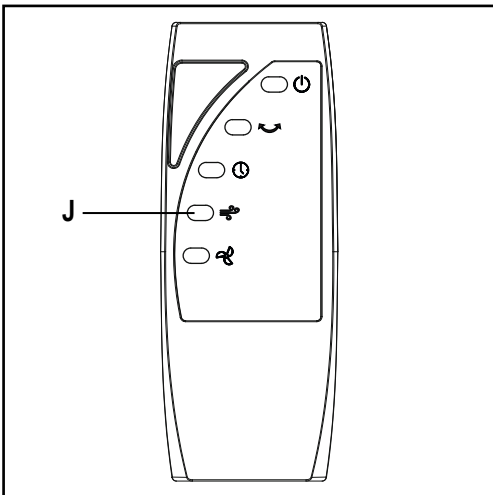

Fig. 3
- È possibile scegliere altre due modalità di ventilazione "Natural" (S) o "Sleep" (T), oltre a quella normale, premendo ripetutamente il tasto (J) sul telecomando (Fig.3). L'apposita spia sulla parte anteriore della ventola si illuminerà (S-T).
G Motor shaft	P Remote control (Fig. 3)
- Switch the blade on by pressing the "ON/OFF" (K) button on the remote control or on the control panel. The apposite light (V) will light up on the front side of the blade.
- The blade speed is adjusted by repeatedly pressing the button (X) on the remote control or on the control panel. The apposite lights (Z) on the front side of blade will turn on.
- Switch the fan off by pressing the "ON/OFF" (K) button on the remote control or on the control panel. By pressing the "ON/OFF" button all of settings are cancelled automatically and the blade is reset.
- To start and stop the oscillation of the blade head, press the (R) button on the remote control or on the control panel. The apposite light (U) on the blade front side will turn on.
- To set the operating time (from 0.5 to 7.5 hours), press repeatedly the button (Y) on the control panel or the remote control until the apposite lights of the time set, situated on the front side of the blade, light up. For instance, for setting an operating time of 5 hours, it will be necessary to press button (Y) 10 times until the lights "4H" and "1H" turn on. For setting an operating time of 7.5 hours, it will be necessary to press the button (Y) 15 times until the lights "4H", "2H", "1H" and "0.5H" turn on.
- It is possible to select other two possible ventilation modes "Natural" (S) or "Sleep" (T), in addition to the standard one, by repeatedly pressing the (J) button on the remote control (Fig.3). The apposite light on the front side of the blade will turn on (S-T). The "Natural" function reproduces the natural wind with non-constant speed during the ventilation cycle. By setting the night function "Sleep" with a required operating level, the air speed will reduce to the lower levels every 30 minutes until the appliance switches off or the timer is disabled. For both modes, it is possible to select the operating level ("Low", "Middle", "High") by means of the (X) button on the remote control or the control panel, repeatedly pressed with the fan in operation.
- At the end of the use, switch the appliance off by pressing the ON/OFF (K) button on the remote control or on the control panel, then unplug it.
F Bague de blocage postérieure de l'hélice	P Télécommande (Fig. 3)
G Eje motor	P Mando a distancia (Fig. 3)
- Encender el ventilador pulsando el botón "ON/OFF" (K) del panel de control o del mando a distancia. Se iluminará el pertinente testigo (V) en la parte delantera del ventilador.
- La velocidad del ventilador se regula pulsando repetidamente el botón (X) del mando a distancia o del panel de control. Se iluminarán los correspondientes testigos (Z) en la parte delantera del ventilador.
- Apagar el ventilador pulsando el botón "ON/OFF" (K) del mando a distancia o del panel de control. Al pulsar el botón "ON/OFF", se anulan automáticamente todas las regulaciones y se restablece el ventilador.
- Para poner en marcha y detener la oscilación del cabezal del ventilador, pulsar el botón (R) del mando a distancia o el botón del panel de control. Se iluminará el correspondientes testigo (U) en la parte delantera del ventilador.
- Para configurar el tiempo de funcionamiento (de 0,5 a 7,5 horas), pulsar repetidamente el botón (Y) del mando a distancia o del panel de control hasta que se enciendan los correspondientes testigos del tiempo configurado, ubicados en la parte delantera del ventilador. Por ejemplo, para configurar un tiempo de funcionamiento de 5 horas, hay que pulsar el botón (Y) 10 veces hasta que se enciendan los testigos "4H" y "1H"; mientras que para configurar un tiempo de funcionamiento de 7,5 horas, habrá que pulsar el botón (Y) 15 veces hasta que se enciendan los testigos "4H", "2H", "1H" y "0,5H".
- Se pueden seleccionar otros dos modos de ventilación "Natural" (S) o "Sleep" (T), además del modo de ventilación normal, pulsando repetidamente el botón (J) del mando a distancia (Fig.3). Se iluminará el correspondientes testigo en la parte delantera del ventilador (S-T). La función "Natural" reproduce el viento natural con una velocidad no constante durante el ciclo de ventilación.
- Si se configura la función noche "Sleep" con el nivel de funcionamiento deseado, la velocidad del aire se irá reduciendo cada 30 minutos al nivel inferior hasta que se apague el aparato o se desactive el temporizador. En ambos modos, se puede seleccionar el nivel de funcionamiento ("Low", "Middle", "High") pulsando repetidamente el botón (X) del mando a distancia o del panel de control, con el ventilador en marcha.
- Cuando se haya terminado de utilizar el aparato, apagarlo pulsando el botón "ON/OFF" (K) del panel de control o del mando a distancia y luego desconectar el enchufe de la toma de corriente.
- Um die Schwingung des Ventilatorkopfes zu starten und zu stoppen, drücken Sie die Taste (R) auf der Fernbedienung oder auf dem Bedienfeld. Die Kontrollleuchte (U) an der Vorderseite des Ventilators leuchtet auf.
- Um die Betriebsdauer (0,5 bis 7,5 Stunden) einzustellen, drücken Sie wiederholt die Taste (Y) auf der Fernbedienung oder dem Bedienfeld, bis die Anzeige für die eingestellte Dauer auf der Vorderseite des Ventilators aufleuchtet. Um beispielsweise eine Betriebsdzeit von 5 Stunden einzustellen, muss die Taste (Y) 10 Mal gedrückt werden, bis die Anzeigen „4H“ und „1H“ aufleuchten; um eine Betriebsdauer von 7,5 Stunden einzustellen, muss die Taste (Y) 15 Mal gedrückt werden, bis die Anzeigen „4H“, „2H“, „1H“ und „0,5H“ aufleuchten.
- Durch wiederholtes Drücken der Taste (J) auf der Fernbedienung (Abb. 3) können Sie neben dem normalen Ventilatormodus zwei weitere Modi wählen: „Natural“ (S) und „Sleep“ (T). Die Kontrollleuchte an der Vorderseite des Ventilators leuchtet auf (S-T). Die Funktion „Natural“ bildet den natürlichen Wind mit einer nicht konstanten Geschwindigkeit während des Ventilatorzyklus nach. Wenn Sie die „Sleep“-Funktion auf eine gewünschte Betriebsstufe einstellen, wird die Luftgeschwindigkeit alle 30 Minuten auf die niedrigere Stufe reduziert, bis das Gerät ausgeschaltet oder der Timer deaktiviert wird. Für beide Modi kann die Betriebsstufe („Niedrig“, „Mittel“, „Hoch“) mit der Taste (X) auf der Fernbedienung oder dem Bedienfeld gewählt werden, die bei laufendem Gebläse wiederholt gedrückt wird.
- Wenn Sie das Gerät nicht mehr verwenden, schalten Sie es aus, indem Sie die Taste „ON/OFF“ (K) auf dem Bedienfeld oder der Fernbedienung drücken, und dann den Stecker aus der Steckdose ziehen.